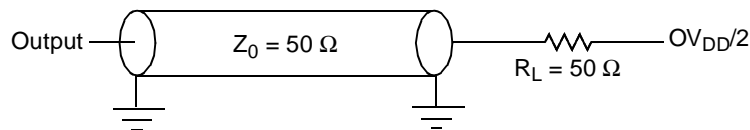

Figure 14. Local Bus C Test Load
Figure 14 provides the AC test load for the local bus.
1. All outputs are measured from the midpoint voltage of the falling/rising edge of  $t_{TCLK}$  to the midpoint of the signal in question. The output timings are measured at the pins. All output timings assume a purely resistive 50-Ω load (see Figure 14). Time-of-flight delays must be added for trace lengths, vias, and connectors in the system.
2. The symbols used for timing specifications follow the pattern of  $t_{(first\ two\ letters\ of\ functional\ block)(signal)(state)(reference)(state)}$  for inputs and  $t_{(first\ two\ letters\ of\ functional\ block)(reference)(state)(signal)(state)}$  for outputs. For example,  $t_{JTDVKH}$  symbolizes JTAG device timing (JT) with respect to the time data input signals (D) reaching the valid state (V) relative to the  $t_{JTG}$  clock reference (K) going to the high (H) state or setup time. Also,  $t_{JTDXKH}$  symbolizes JTAG timing (JT) with respect to the time data input signals (D) went invalid (X) relative to the  $t_{JTG}$  clock reference (K) going to the high (H) state. Note that, in general, the clock reference symbol representation is based on three letters representing the clock of a particular functional. For rise and fall times, the latter convention is used with the appropriate letter: R (rise) or F (fall).